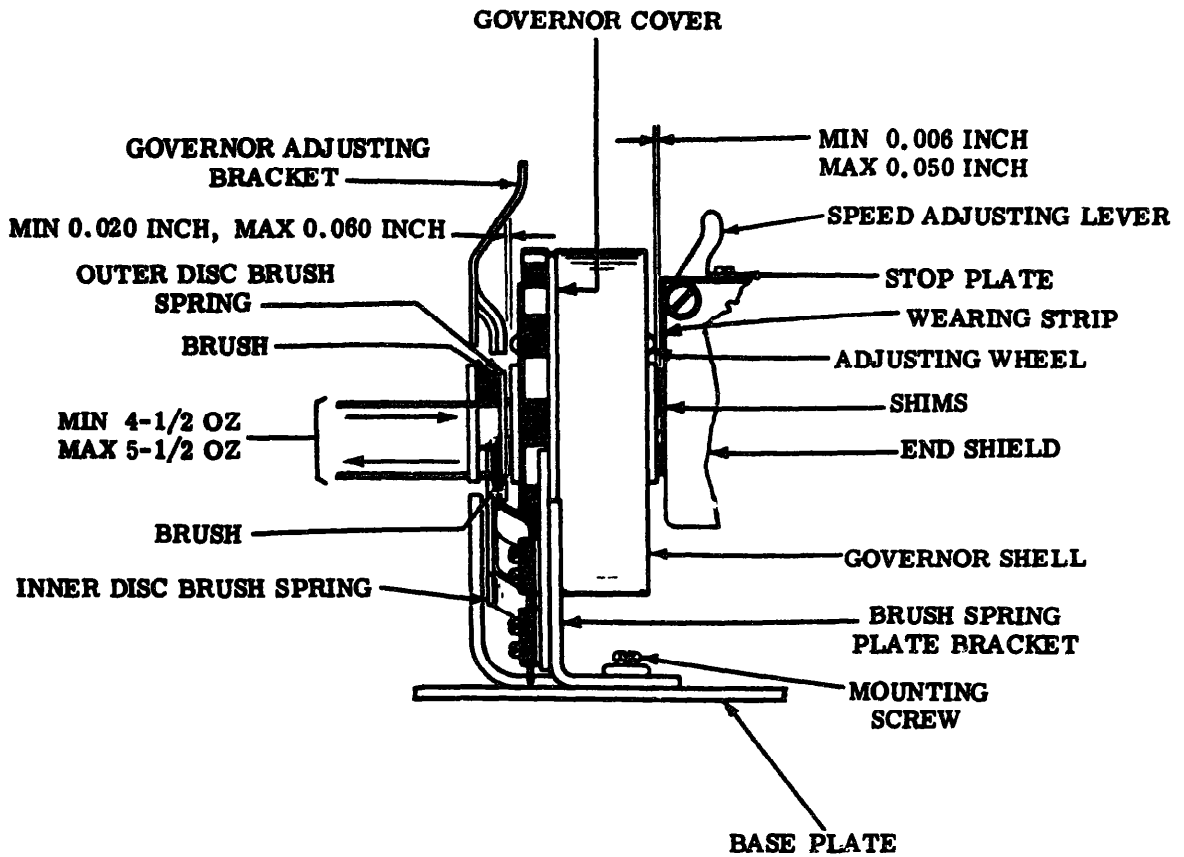
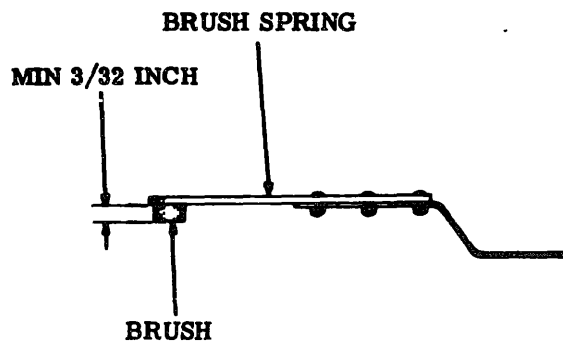
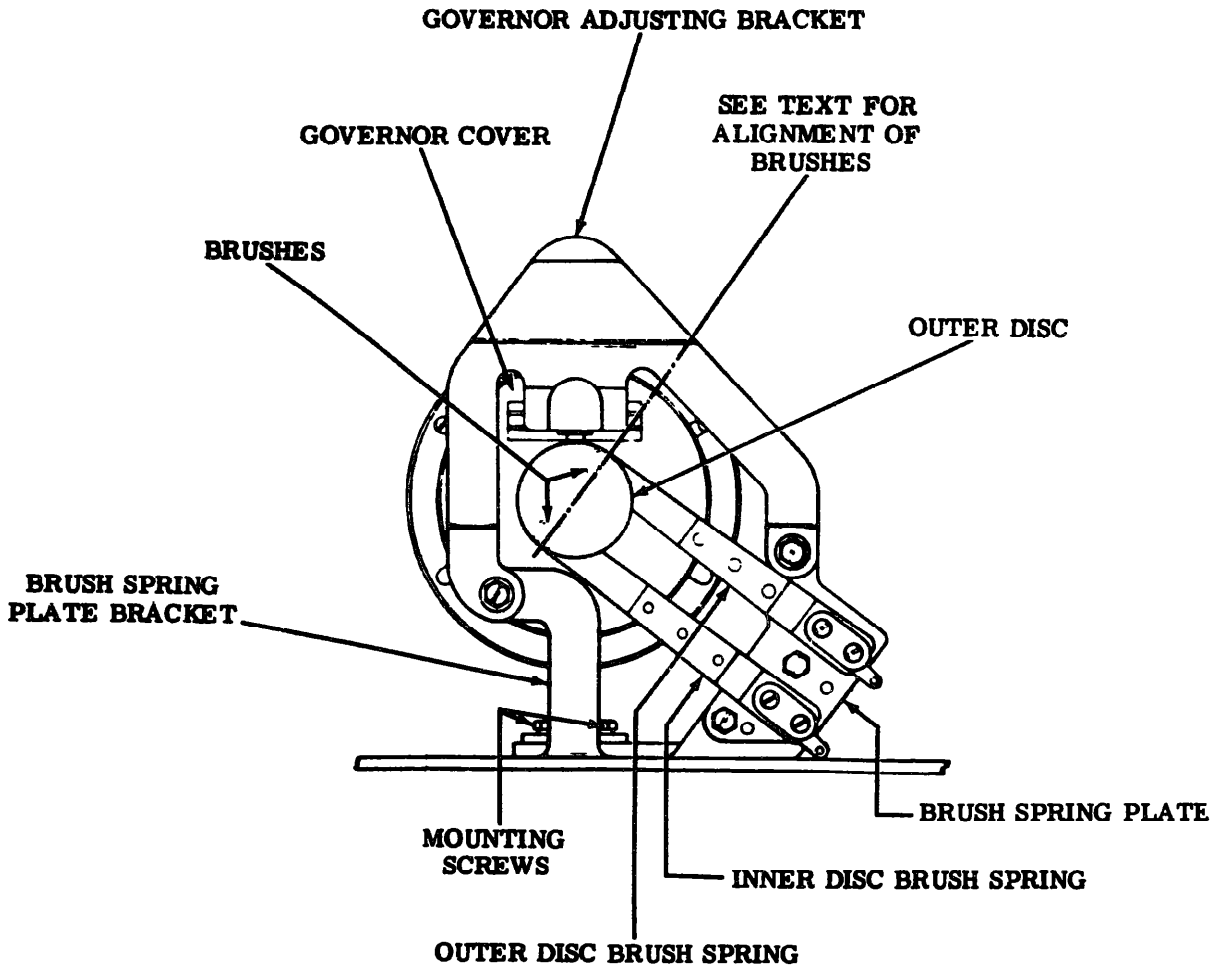

Figure 9- Governor Brush Spring Plate Bracket Assembly
Figure 10- Brush Spring Assembly
Figure 11- Governor Adjusting Bracket Assembly
**To Adjust:** Position the adjusting lever stop plate by means of its elongated mounting holes. (See Figure 9.)
**To Adjust:** Loosen the brush-spring-plate mounting screws and reposition the bracket. Tighten the screws. (See Figure 9.)
(6) Governor brushes shall lie flat against their discs and there shall be minimum  $3/32$  inch of the brush material remaining. Gauge by eye.
**To Adjust:** Level off the brush by passing a piece of 400A Aloxite between the brush and the disc. If there is less than  $3/32$  inch of the brush remaining, replace the brush. (See Figure 10.)
(7) Inner-disc Brush-spring Tension: It shall require minimum  $4\text{-}1/2$  ounces, maximum  $5\text{-}1/2$  ounces to start the brush moving away from its disc.
**To Adjust:** Remove and bend the brush spring. Reassemble the spring and recheck (6). (See Figure 9.)
(8) Outer-disc Brush-spring Tension: It shall require minimum  $4\text{-}1/2$  ounces, maximum  $5\text{-}1/2$  ounces to start the brush moving away from its disc.
(9) Governor-brush Alignment: The outer edge of the brushes shall be within  $3/64$  inch of the outer edge of the discs throughout one revolution of the governor; and a line established by the center of the outer disc and the center of one of the brushes shall pass through some portion of the other brush.
**To Adjust:** Reposition the brush spring by means of its mounting slot. Reassemble the governor-adjusting bracket. (See Figure 11.)
(10) Governor-adjusting Bracket: There shall be a clearance of minimum 0.020 inch, maximum 0.060 inch between the
**To Adjust:** Bend the governor-adjusting bracket. (See Figure 9.)